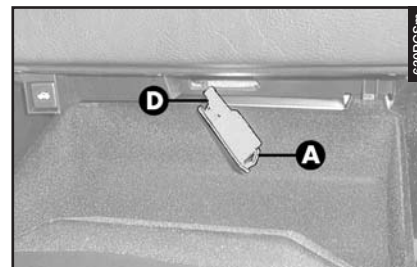

fig. 76
- Remove the light pushing with a screwdriver on the tab (**A-fig. 76**)
— Re-install the light inserting it in the correct position firstly on one side (**D-fig. 76**) and then pushing on the other until the tab clicks.